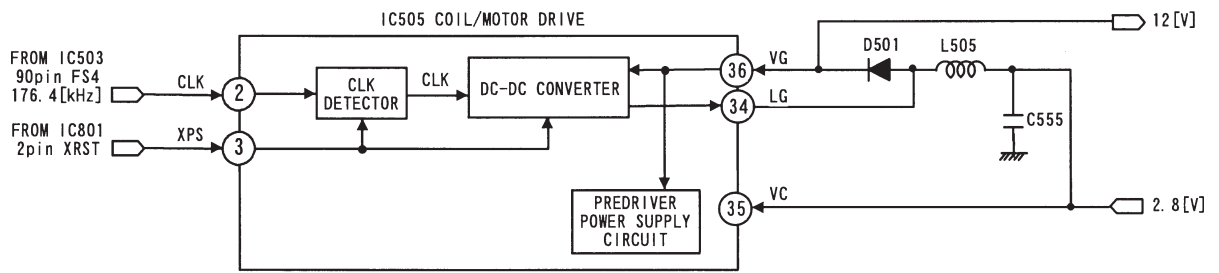

Fig. 5-5 12 V DC-DC converter circuit
Fig. 5-5 shows block diagram of the 12 V DC-DC converter. The coil/motor drive IC505 has the 12 V DC-DC converter internally in it. The 12 V DC-DC converter starts operating when coil (L505), switching diode (D501) and smoothing capacitor (C555) are externally connected. The 12 V DC-DC converter generates the power supply voltage to be used by the pre-driver inside IC505, and the 12 V power supply voltage for stepping motor. This 12 V DC-DC converter operates in synchronization with the clock (176.4 kHz) supplied from the digital signal processor IC503 pin^⑩ [FS4].